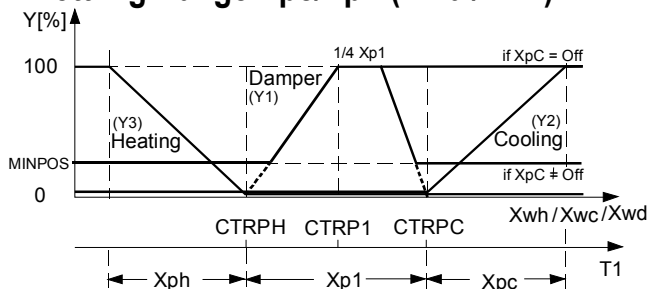

Fig. 4. Temperature Sequence Control with Heating, Mixed Air Damper and Cooling Valve
- Temperature sequence control with heating, mixed air dampers, and cooling (see Fig. 4 and Table 7)